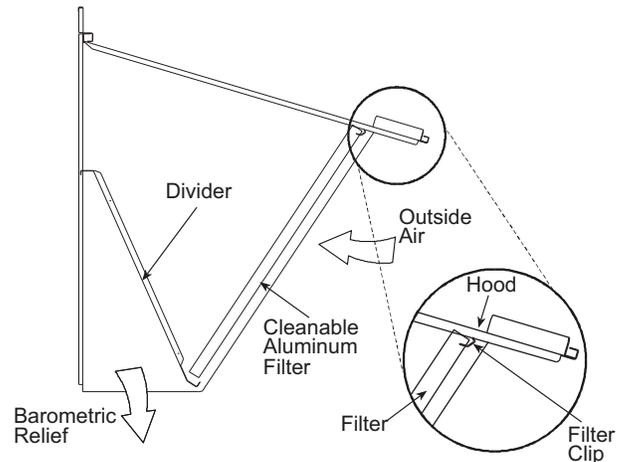

Fig. 19 – Economizer Filter Installation
6. Open the filter clips which are located underneath the hood top. Insert the aluminum filters into the bottom filter rack (hood divider). Push the filter into position past the open filter clips. Close the filter clips to lock the filters into place. See Fig. 19.